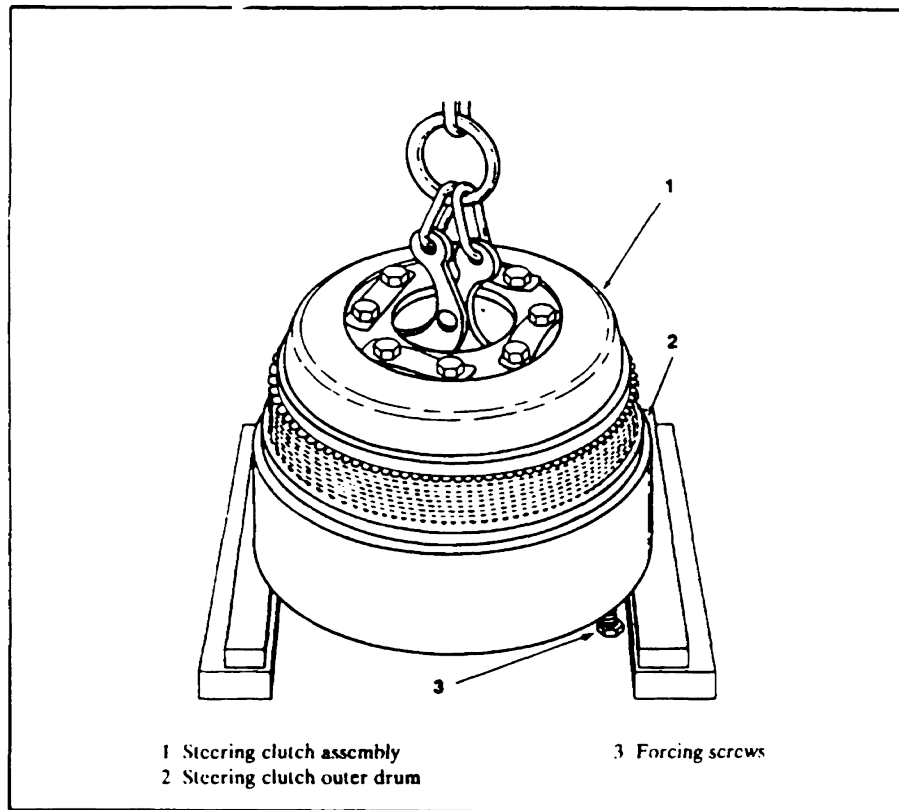

FIGURE 29. STEERING CLUTCH ASSEMBLY REMOVAL
Step 12. Using a suitable lifting hook, remove the steering clutch assembly from the outer drum (Figure 29). Invert the outer drum, remove the forcing screws, and replace the outer drum on the steering clutch assembly.
Step 13. Install the brake band on the outer drum as shown in Figure 29.